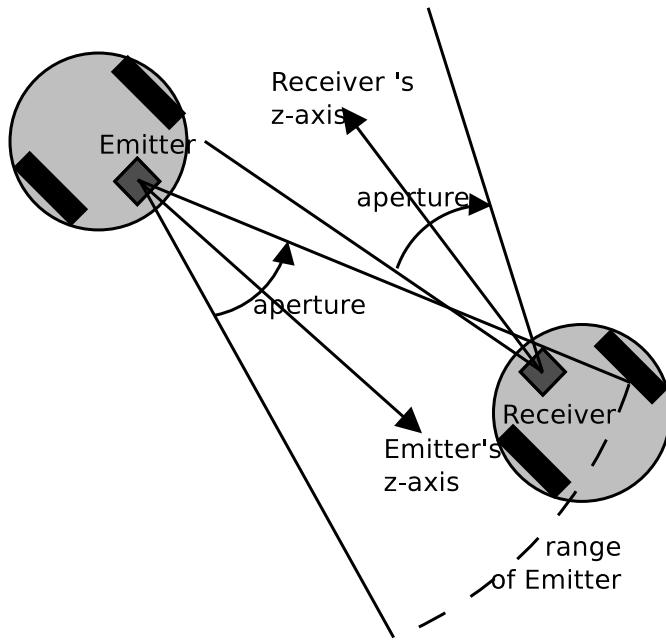

Figure 3.18: Illustration of aperture and range for "infra-red" Emitter/Receiver
- `aperture`: opening angle of the emission cone (in radians); for "infra-red" only. The cone's apex is located at the origin ([0 0 0]) of the emitter's coordinate system and the cone's axis coincides with the `z`-axis of the emitter coordinate system. An "infra-red" emitter can only send data to receivers currently located within its emission cone. An aperture of -1 (the default) is considered to be infinite, meaning that the emitted signals are omni-directional. For "radio" and "serial" emitters, this field is ignored. See figure 3.18 for an illustration of `range` and `aperture`.